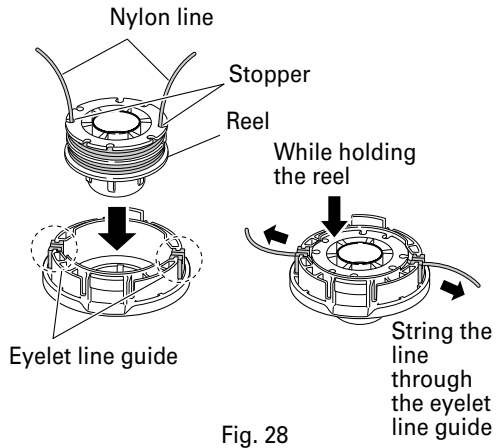

Fig. 28
- (6) Align the position of the stopper and eyelet line guide, and then insert the button through the case. Release the line from the stopper while holding the reel lightly, and then string the line through the eyelet line guide. (Fig. 28)